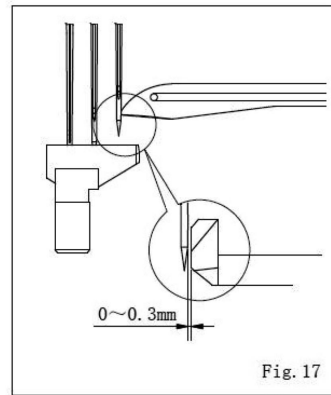

Fig. 17
2. 当勾针退到右针中心的位置时, 右针与前护针片之距离亦为 0.3mm。(图 17)
2. When the Looper reverse to center of right needle, the clearance between right needle and Front Needle Guard is 0.3mm. (Fig. 17)